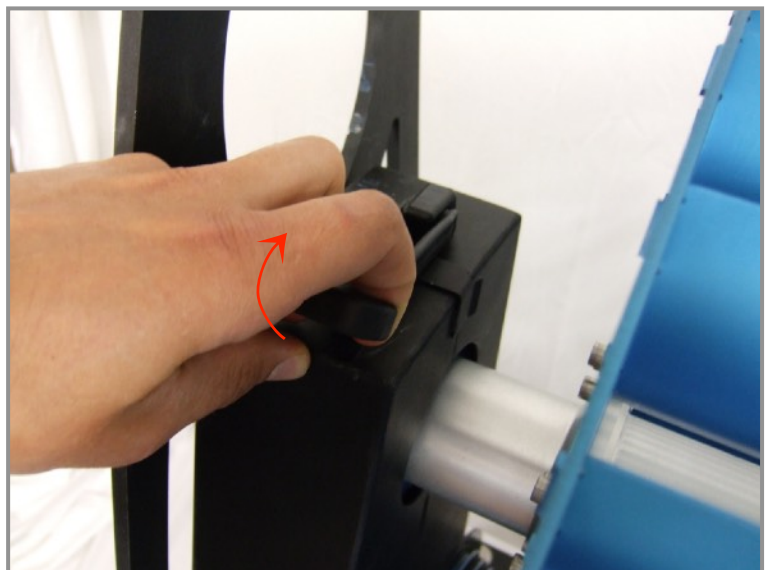

Figure 6
1. Undo the flexible draw latch by pulling the handle and lifting it up (figure 6).